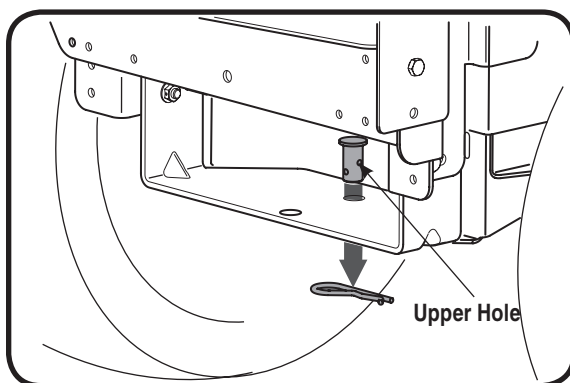

Figure 3-12
5. Reinsert the clevis pin through the aligned holes in both the bracket assembly and the hitch plate and secure with the hairpin clip removed earlier. See Fig. 3-12.